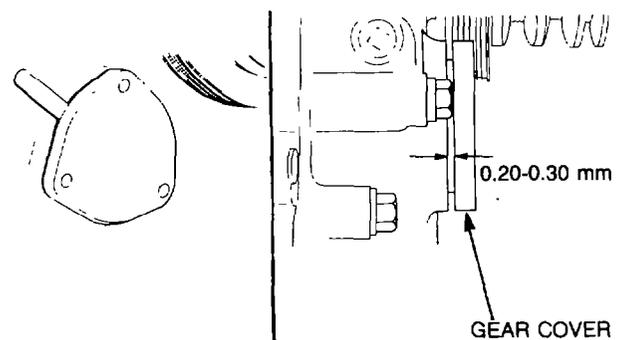

Figure 54 — Camshaft Support Bearing — Clearance
- bc. Hold the camshaft support bearing against the camshaft using hand pressure only, then measure the distance between the gear cover and the support bearing (see Fig. 54), with a suitable thickness feeler gauge.